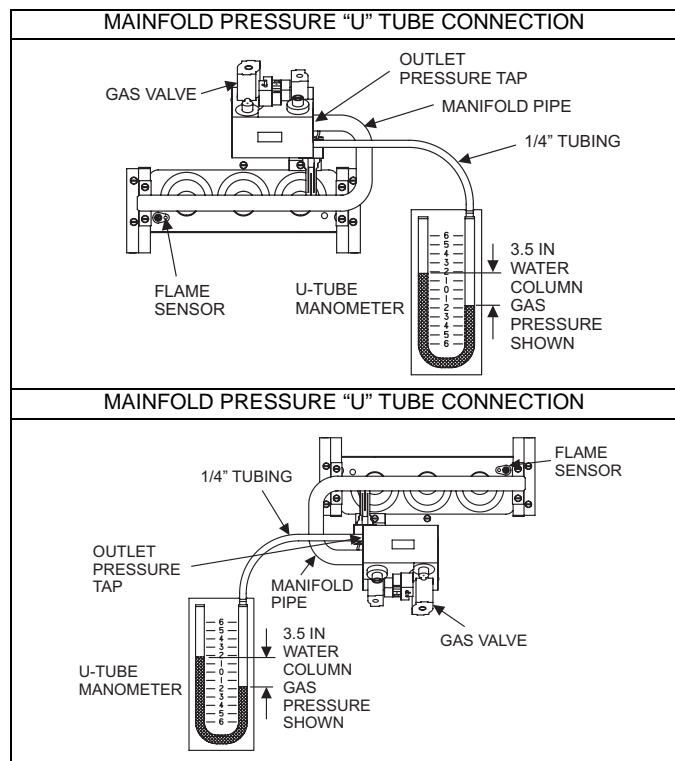

FIGURE 38: Reading Gas Pressure
4. Use the 4" (10.2 cm) piece of 1/8" (0.3 cm) tubing to connect the positive side of the manometer to the gas valve pressure reference port. Refer to Figure 38 for connection details.